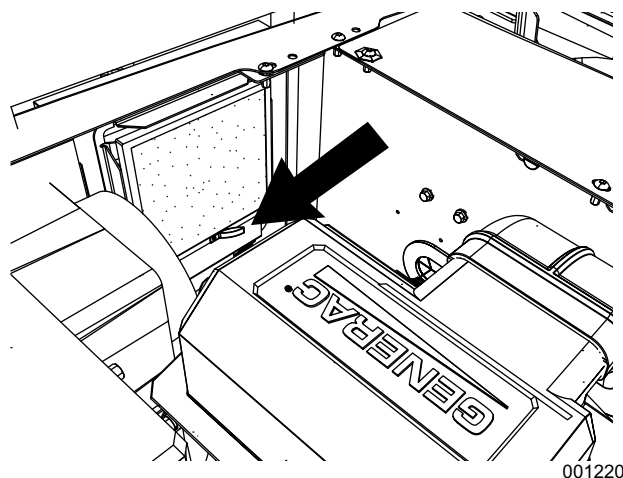

Figure 4-6. Replacing the AVR Filter
3. See Figure 4-6. Grasp rubber lifting strap and remove filter from filter housing.